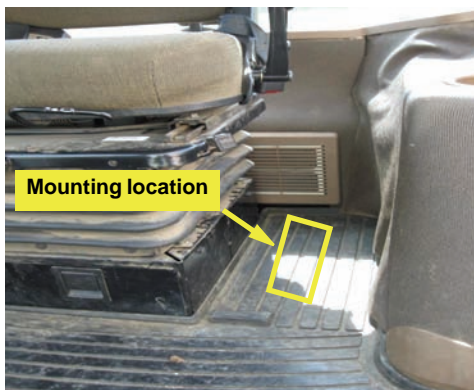

Figure 1a: ECU mounting location
- a. Locate the ECU mounting location to the left of the driver's seat on the cab floor (Figure 1a).